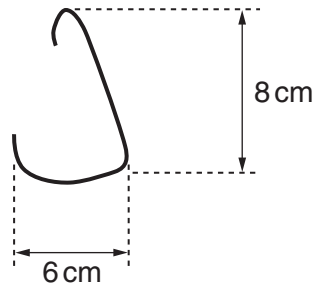

Fig. 1.3
- 2 The wire hook should be made from steel wire of approximate diameter 1.5 mm. It should have the approximate dimensions shown in Fig. 1.3.